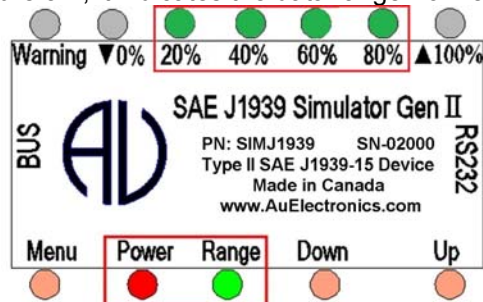

Figure 3-7
- If keep pressing **Up** button, the control step value will keep rising, 20%, 40%, 60%, and 80% LED will be on, as shown in Figure 3-7, it indicates the data range from 81% to 99%.